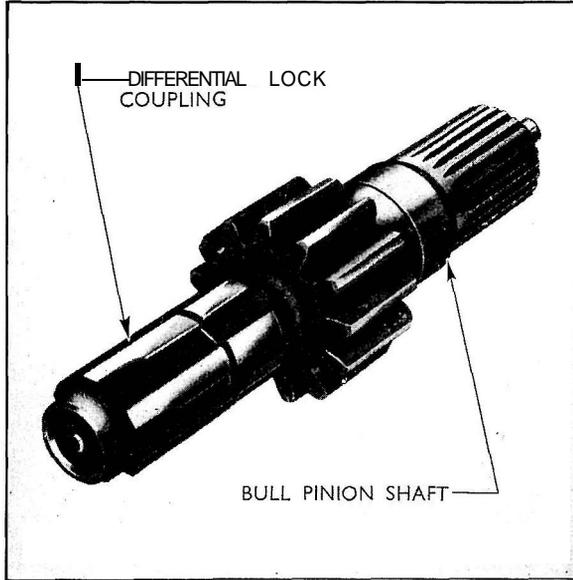

Fig. 13
1. Align the splines of the differential lock coupling with the splines on the inner end of the bull pinion shaft as illustrated in Fig. 13. Insert the bull pinion shaft and differential lock assembly into the bull pinion housing so that the differential lock coupling and the end of the bull pinion shaft engage with the right-hand differential 'side-gear.